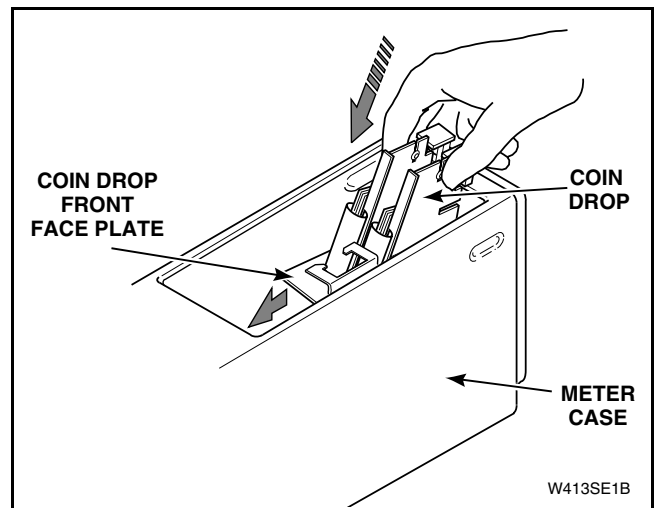

Figure 16
- l. Gently work new coin drop into meter case with the drop's front face plate down. Refer to *Figure 16*.